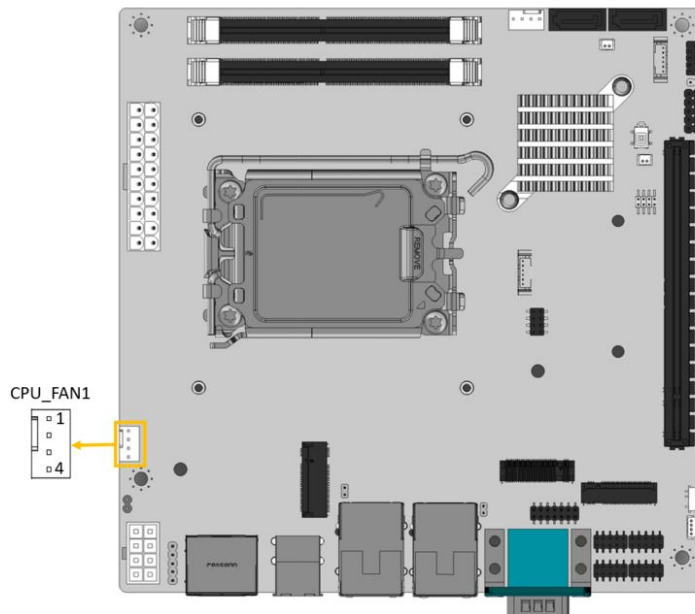

Figure 3-7: CPU Fan Connector Location
- CN Location:** See Figure 3-7